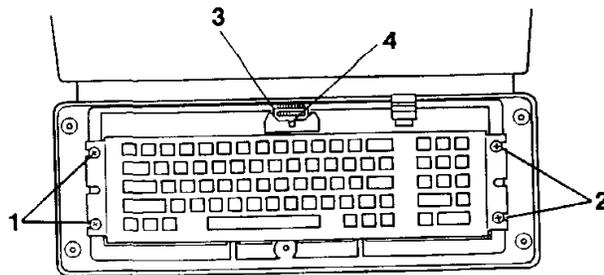

FIGURE 2
6. Remove the two retaining screws on the left end of the keyboard. (See Figure 2, Item 1).
7. Loosen but don't remove the two retaining screws on the right. (See Figure 2, Item 2).
9. Disconnect the keyboard cable (See Figure 2, Item 3) by using a screwdriver to push on the tab or sides of the cable connector (See Figure 2, Item 4).